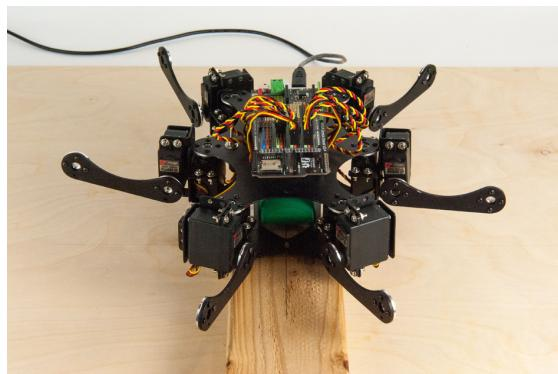

Figure 5-8 All six femurs installed
3. Stop phoenix.js with Control-C and disconnect the Arduino from your computer. It is now safe to screw the femur onto the femur servo. Figure 5-8 shows the installed femurs.